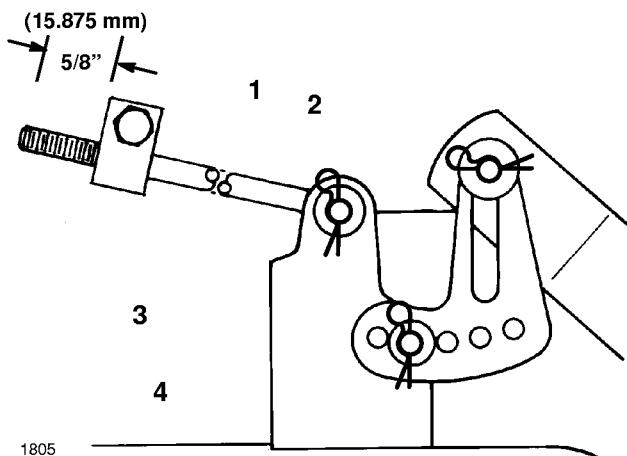

Figure 51
3. Measure the length of the rod extending out the front of the adjusting block on the sides of the chassis (Fig. 51). If the rod length is not $5/8"$ (15.8 mm), remove the hairpin cotter and washer from the end of the rod (Fig. 51), and turn the rod until the $5/8"$ (15.875 mm) dimension is obtained. Then install the end of the rod into the hole in the mower mount and secure in place with washer and hairpin cotter. Repeat procedure on the opposite side.